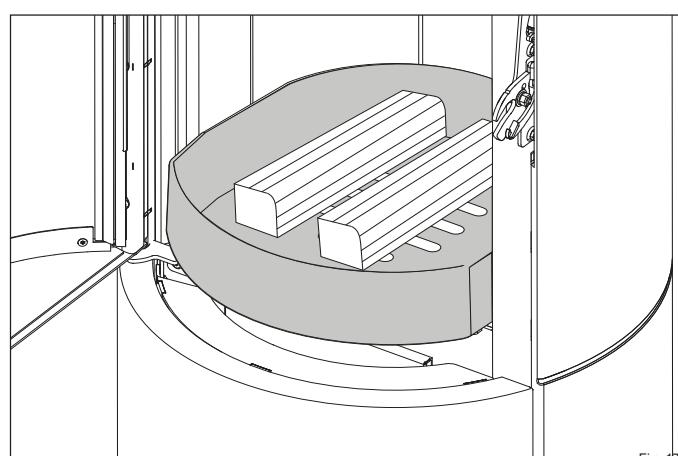

Fig. 17
- Add two logs (④) with a total weight of 1.4 kg in the middle of the firebox (face forward).
- Keep approx. 5 cm from the firebox glass (Fig. 17).